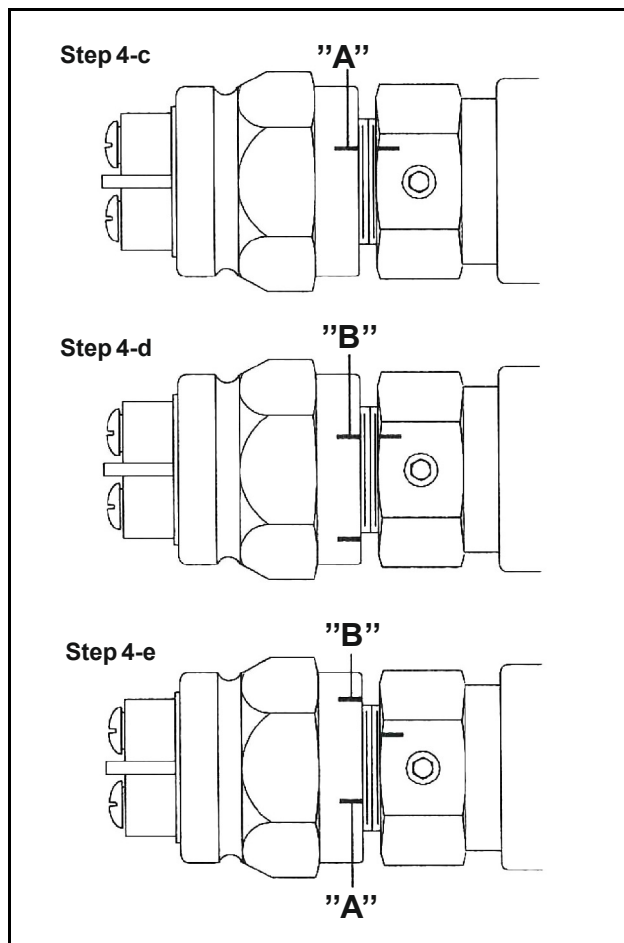

Figure 5-129. Neutral Lockout Switch Assembly
- c. Move the control arm out of the detent position. The test light will go on. Screw in the switch until the light goes off. Mark this as position "A". See Figure 5-129. Move the control arm to the detent position and the test light should come back on.
- e. Unscrew the switch one third of the distance between "B" and "A". Install and tighten the hex socket head set screw in one of the main quadrants of the hex of the switch adapter. See Figure 5-129. Torque set screw 2.3 to 2.8 in.lbs. (3.2 to 3.8 Nm).